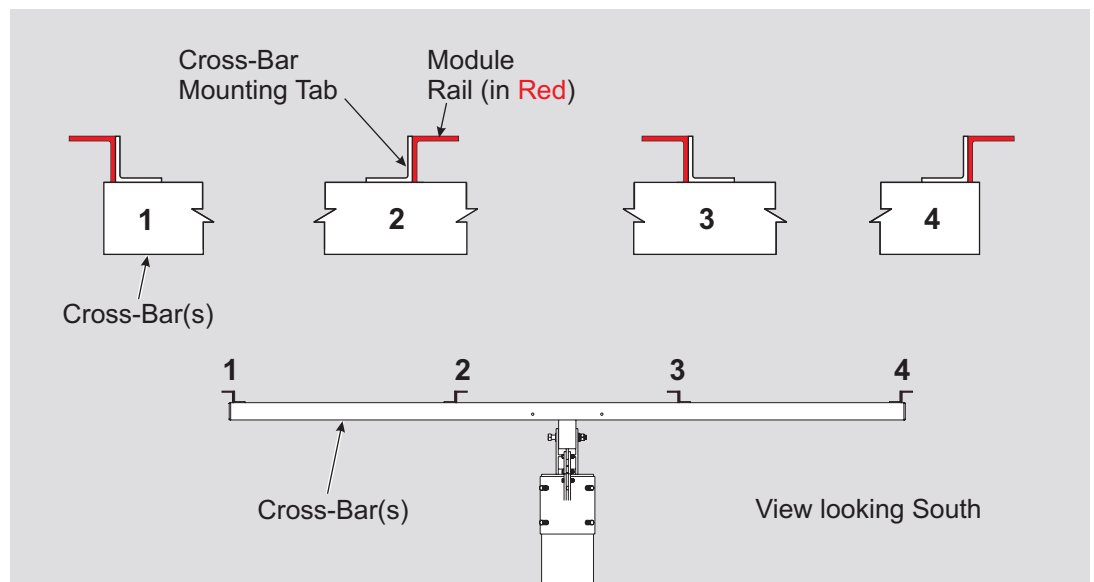
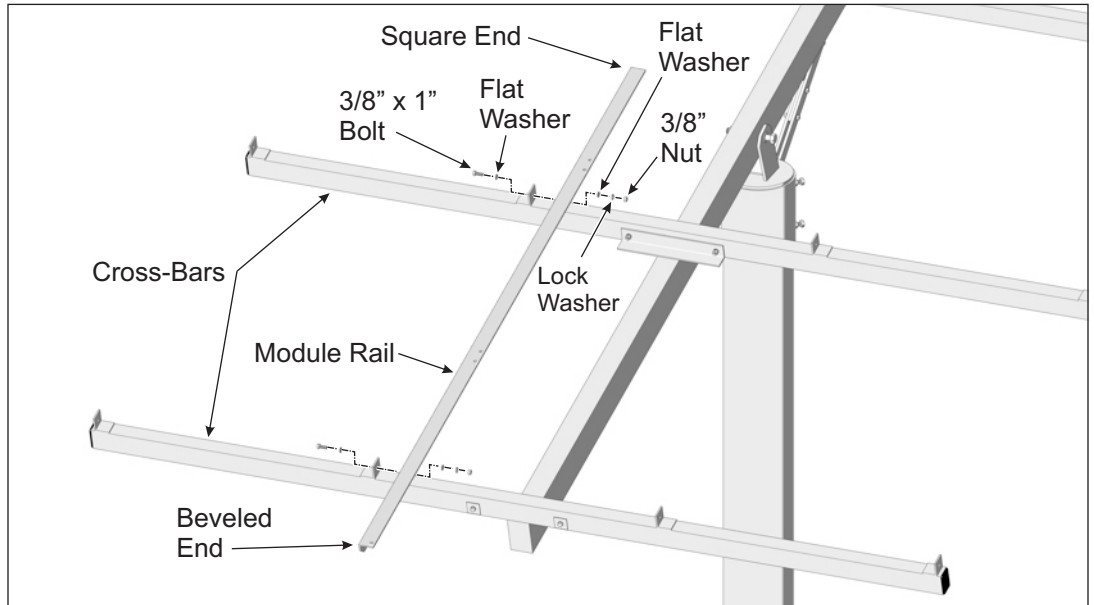

Figure 4-1: Orientation of Module Rails to Cross-Bars
Figure 4-2: Installing southern inboard Module Rail to Cross-Bars
The Cross-Bars have four locations where Module Rails are attached; at each of these locations two Rails are installed and butt jointed using Splice Plates. Splice Plates are positioned on the outside of the Module Rails (See Figure 4-1) and secured using 3/8" x 1" bolts and hardware. There are four Splice Plates to install.
Additionally, Module Rails are installed differently depending on where they are located on the Cross-Bars and the orientation of the mounting tabs of the Cross-Bars. Follow these instructions carefully for the correct orientation. (See Figure 4-2)
- A. Referring to Figure 4-1 for orientation of the Module Rails, position the first section of inboard Module Rail in the southern position on the Cross-Bars. Align the Module Rail mounting holes with the holes of the Cross-Bar mounting tabs and secure with 3/8" x 1" bolts and hardware. Finger-tighten for now. (See Figure 4-2)
Continue in this manner and install all remaining Module Rails (six more) while being mindful and following Figure 4-1 for proper orientation of the Rails to the Cross-Bar mounting tabs.